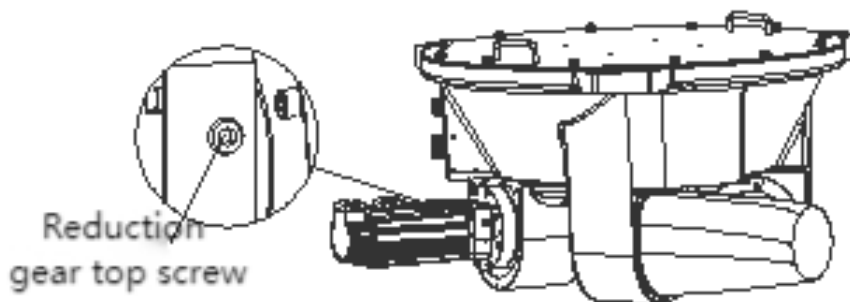
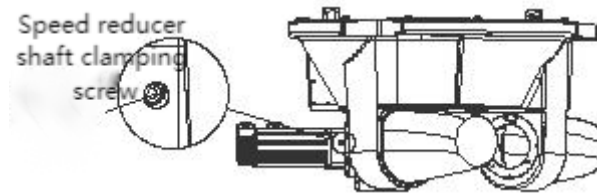

Figure 3-16 Remove the top screw of the reducer
Figure 3-17 Loosen the screw of the reducer shaft clamp
Step 3 As shown in Figure 3-16, remove the top screw of the reducer. After removing the top screw, as shown in Figure 3-17, loosen the M6 nut on the reducer shaft clamp through the threaded hole. Note: If the threaded hole at the current position does not correspond to the reducer shaft clamp nut, hold down the Brake button to adjust the position of the reducer shaft clamp nut.